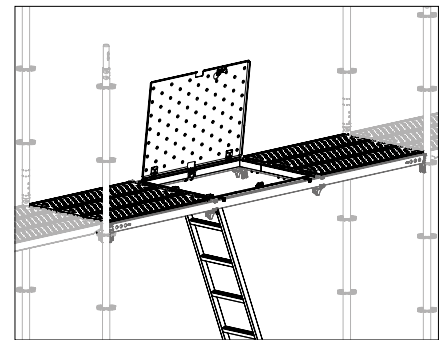

Fig. A8.04b
- Hatch UAF-2 is installed. (Fig. A8.04b)